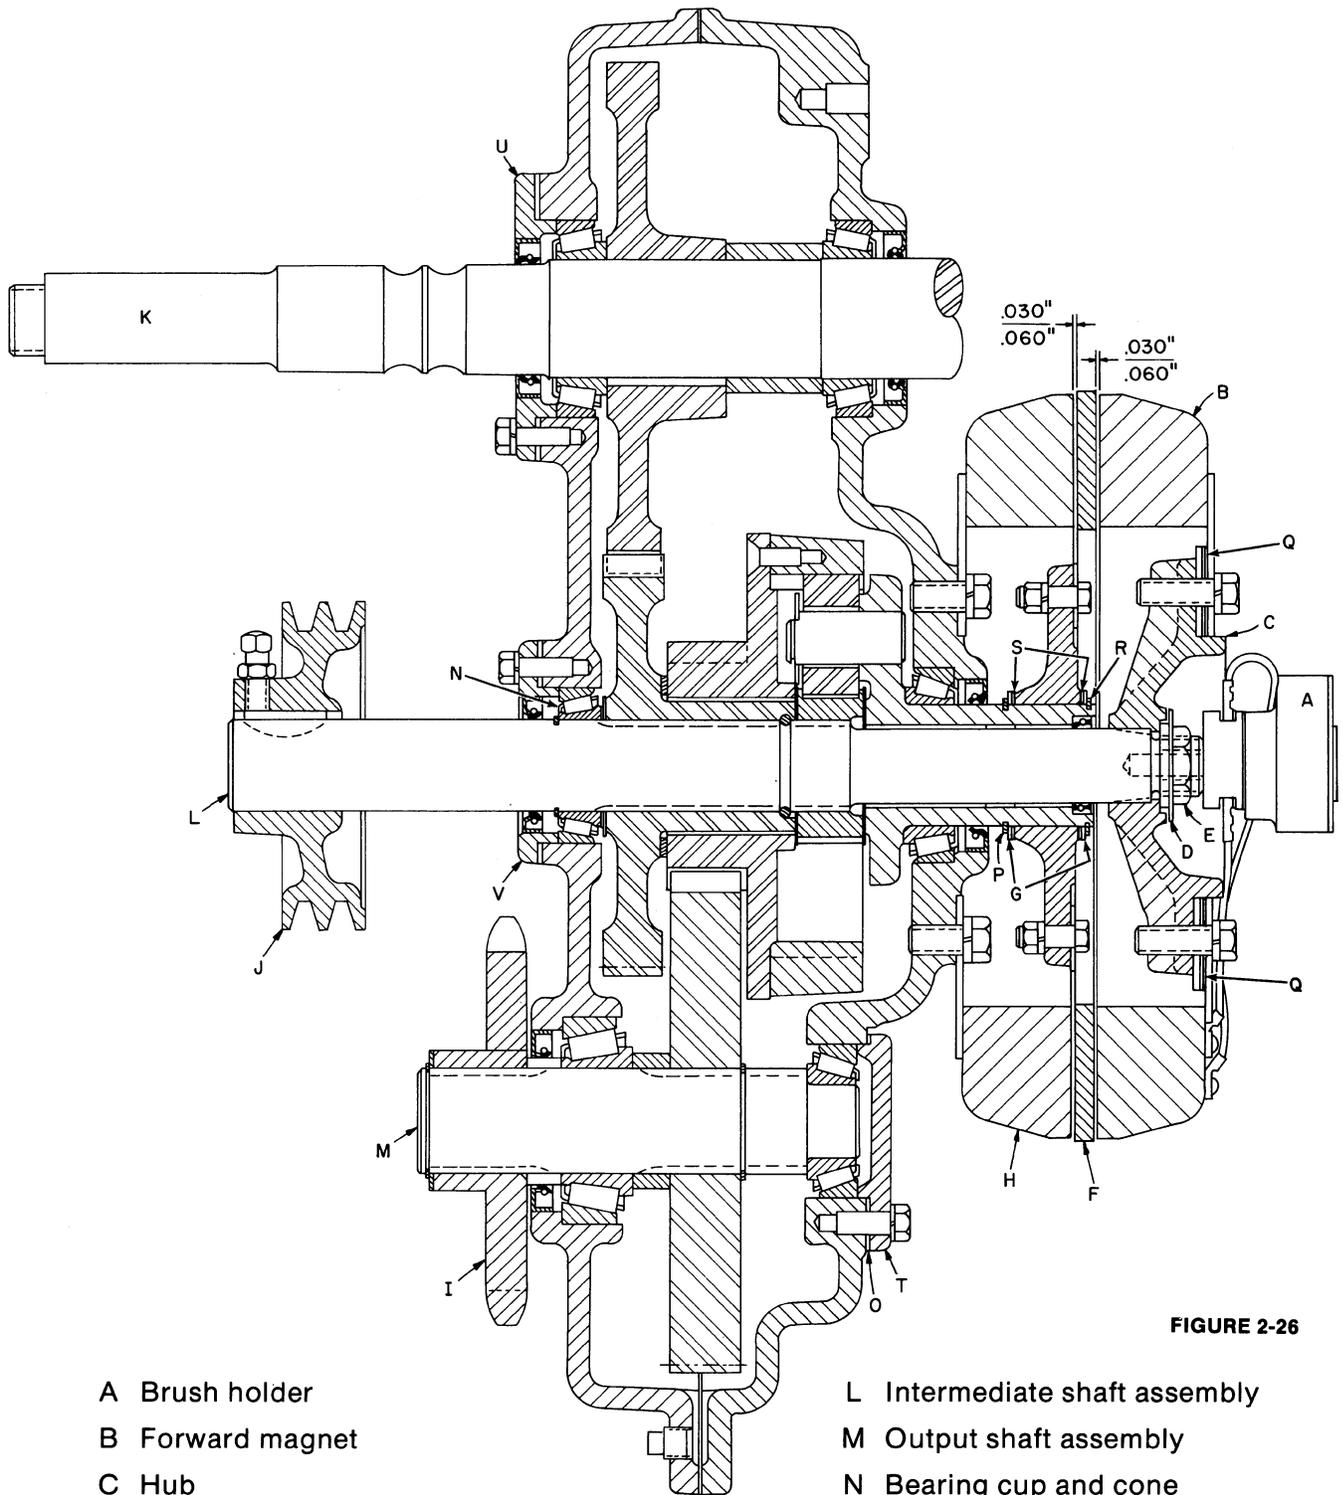

FIGURE 2-26
4. Shim three bearing caps, T, U, and V, Figure 2-26, to obtain .001"-.003" (.03-.08 mm) shaft end-play.
5. Install reverse magnet, H, Figure 2-26. Coat the threads of the mounting bolts with Permatex.